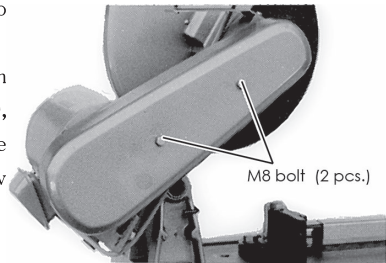
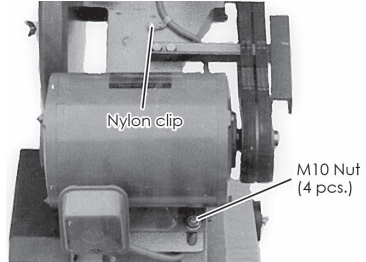

Fig. 9
Fig. 10
- Remove two M8 bolt screws used to secure the belt cover shown in Fig. 9.
- By loosening four M10 nuts shown in Fig. 9 on the belt side shown in Fig. 10, push the motor to the front, removing the belt. When attaching the belt, follow reverse procedures to the above.
#### 5. Stretching the belt (Fig. 10)